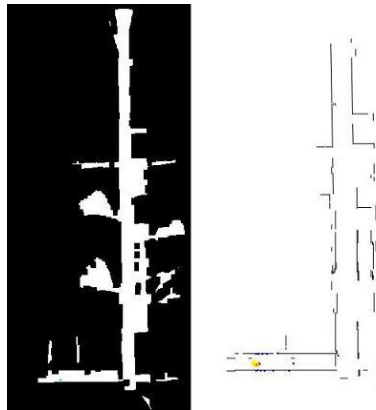

Figure 7: Grid map and line map.
1. Start the program ABMailMen.exe. A grid map and a line map of your explored area should appear, see Figure 7.